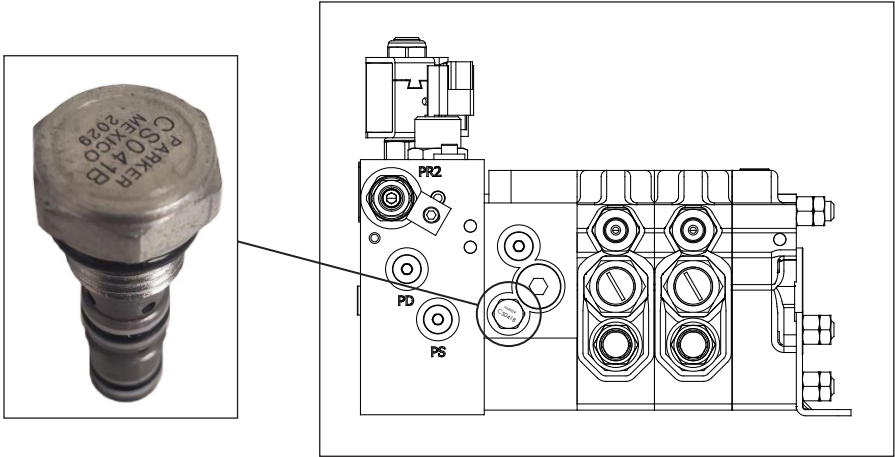

Figure 5 – Valve with Incorrect Cartridge
- If there is a hex head cartridge at this location (refer to Figure 5), the valve must be repaired. Call 1-877-GO ALTEC (1-877-462-5832) to order the Elevator Valve Plug Kit, part number 990951100, and to schedule the installation if it will be performed by Altec. Reinstall the lower cover if it was removed, and take the unit out of service until the kit is installed. **Do not** complete the Inspection Sheet at the end of the CSN.